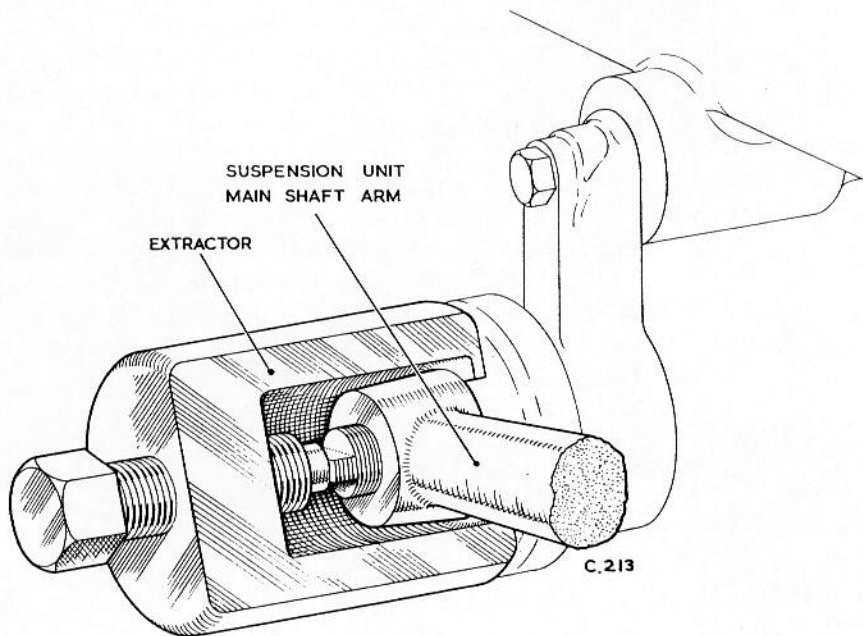

Fig.24 Suspension arm shaft extractor.
5. Jack up and support the relevant side of the axle then, using extractor TFN.8039 as shown in Fig. 24, break the taper joint of the suspension unit.